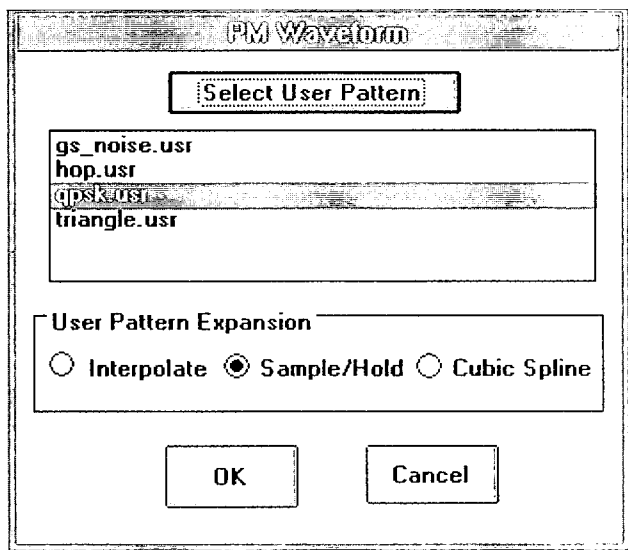

Figure 2-7. PM Waveform Dialog Box
5. When the PM Waveform dialog box (Figure 2-7) is displayed, click on `qpsk.usr` to highlight the line. Then select **Select User Pattern**.